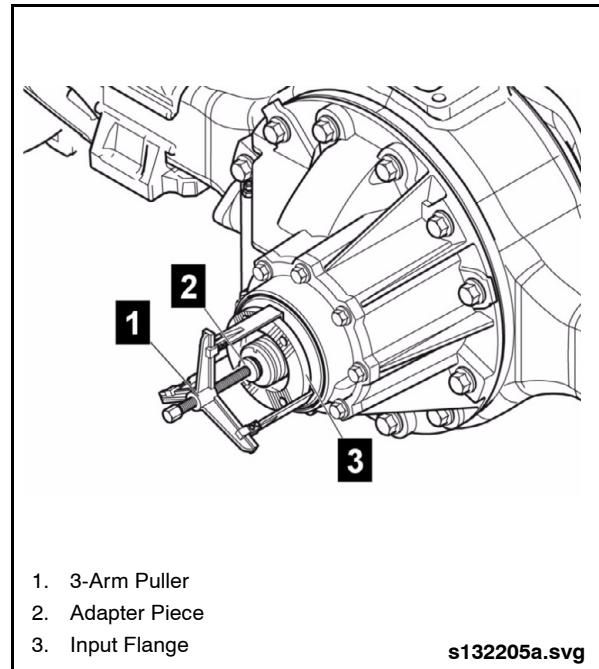

Fig. 2-34: Pulling Off Input Flange
2. Thread the 3-Arm Puller spindle against the Adapter Piece to remove the input flange. See "Fig. 2-34: Pulling Off Input Flange" on page 33.